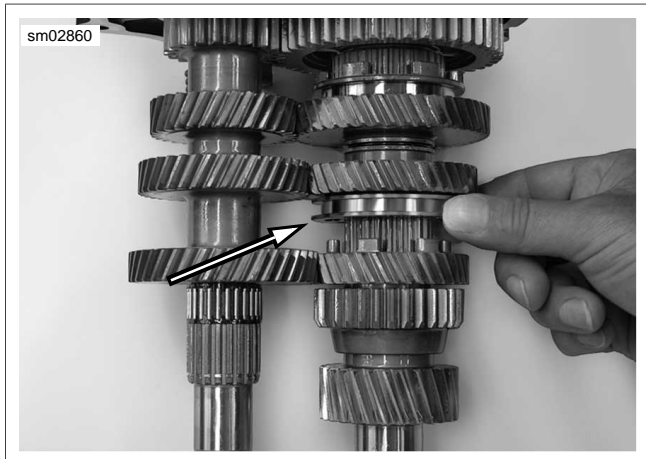

Figure 6-27. Raise and Hold Dog Ring
- See Figure 6-27. Hold dog ring so that it is engaged with countershaft 3rd gear during the press procedure. If press is performed with dog ring engaged with countershaft 4th gear, contact with mainshaft 4th gear will push shafts out of alignment and result in possible bearing and gear damage.